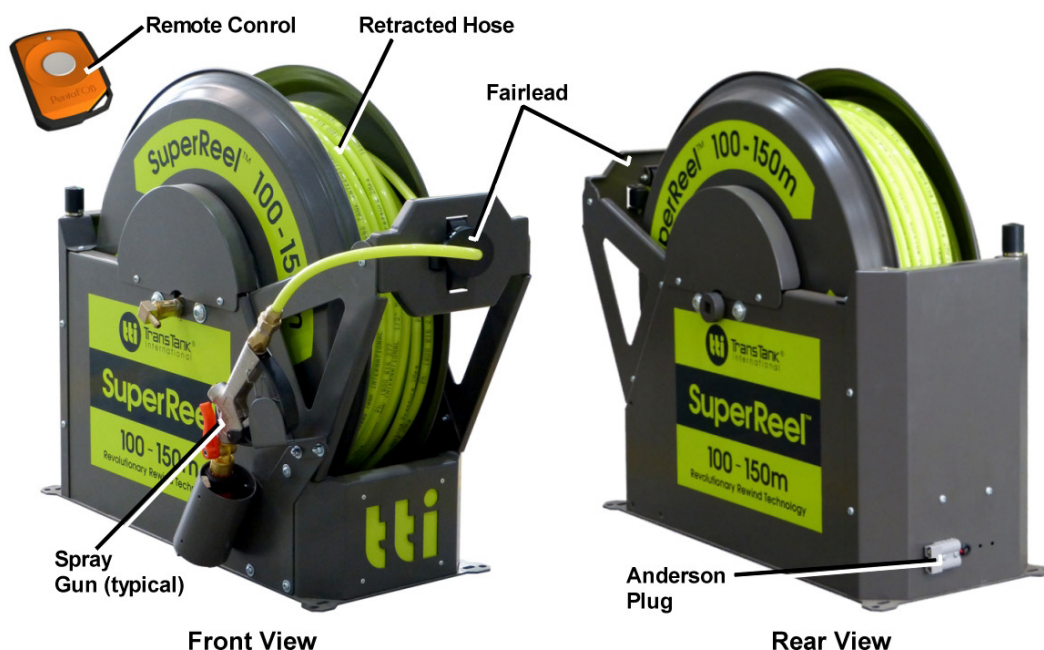

Figure 5 – SuperReel
17. Press the button on the remote control supplied with the SuperReel to start retracting the hose, refer to Figure 5. The hose will wind on to the reel's spool, guided by the integrated fairlead.